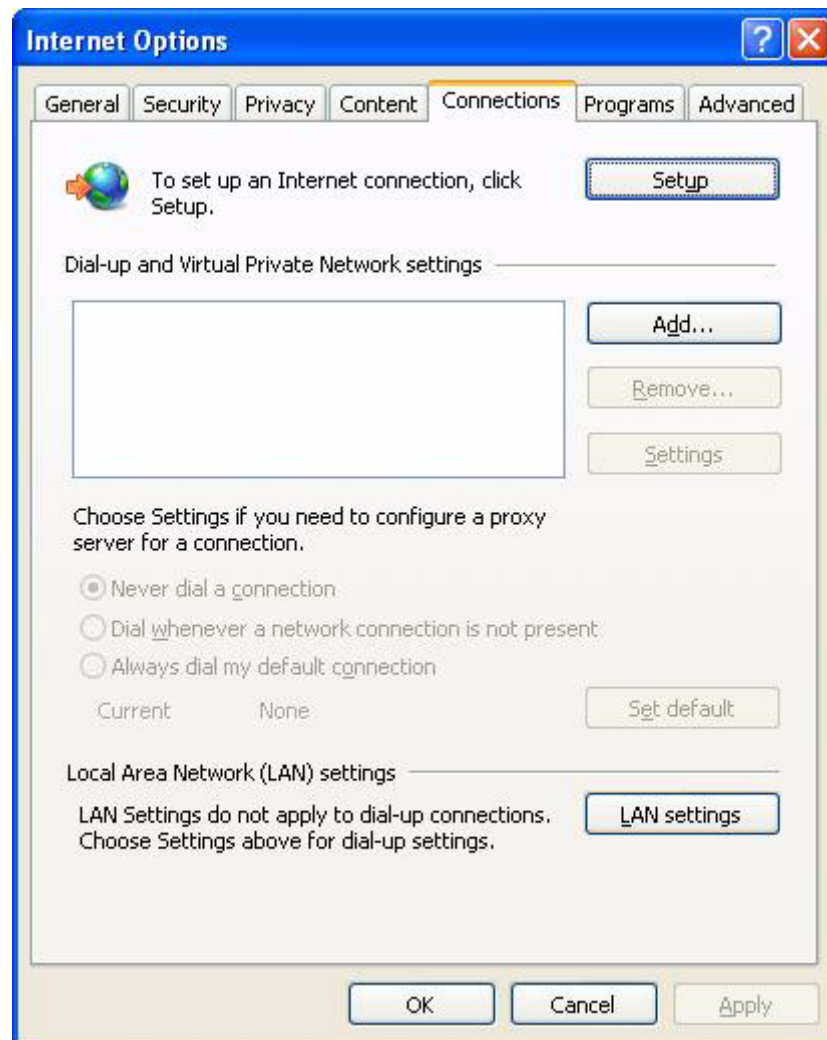

Figure A-4 · Tools > Options > Connection
3. Click the **Connections** tab (Figure A-4).